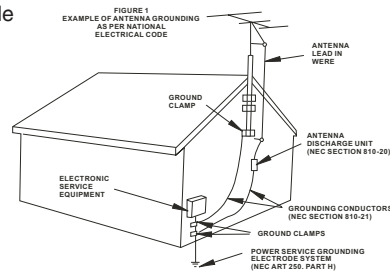

Figure 131.1
13. **Outdoor Antenna Grounding** - If an outside antenna or cable system is connected to the product, be sure the antenna or cable system is grounded so as to provide some protection against voltage surges and built-up static charges. Article 810 of the National Electrical Code, ANSI/NFPA 70, provides information with regard to proper grounding of the mast and supporting structure, grounding of the lead-in wire to an antenna discharge unit, size of grounding conductors, location of antenna-discharge unit, connection to grounding electrodes, and requirements for the grounding electrode. (Figure 131.1)